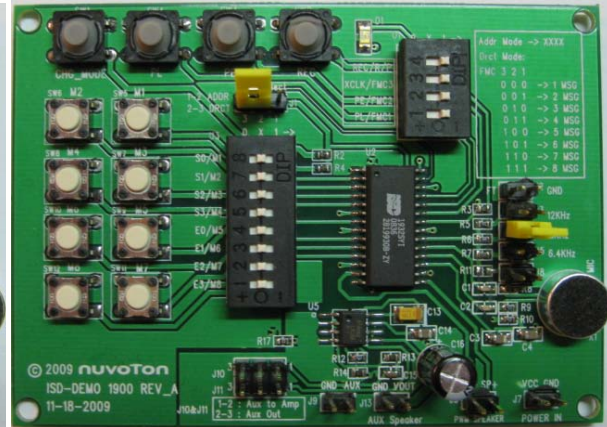

Figure 5 – Direct Mode Settings
- Direct Mode jumper/switches settings (shown in Figure 5):
- U1 REC/R/P is at left (0) position – to record;
- U1 REC/R/P is at right (1) position – to play;
- Install jumper to choose sampling frequency. In Figure 5, 8 KHz sampling frequency is chosen.